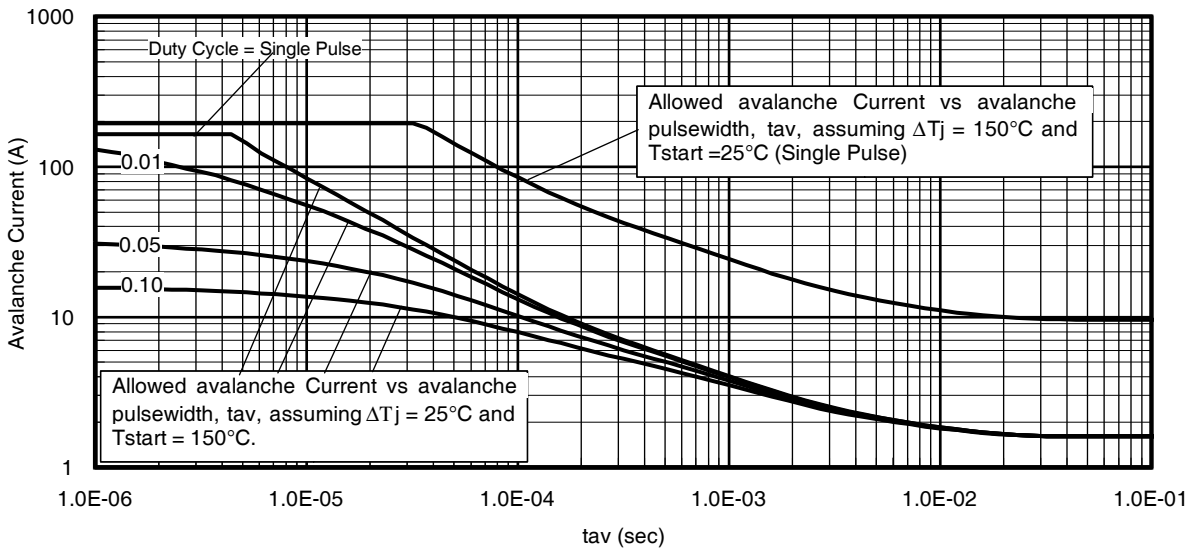

Fig 14. Typical Avalanche Current vs. Pulsewidth
- ④ $I_{SD} \leq 165A, di/dt \leq 430A/\mu s, V_{DD} \leq V_{(BR)DSS}, T_J \leq 175^\circ\text{C}$.
- ⑤ Pulse width $\leq 400\mu s$; duty cycle $\leq 2\%$.
- ⑥ $C_{oss \text{ eff. (TR)}}$ is a fixed capacitance that gives the same charging time as C_{oss} while V_{DS} is rising from 0 to 80% V_{DSS} .
- ⑦ $C_{oss \text{ eff. (ER)}}$ is a fixed capacitance that gives the same energy as C_{oss} while V_{DS} is rising from 0 to 80% V_{DSS} .
- ⑧ When mounted on 1" square PCB (FR-4 or G-10 Material). For recommended footprint and soldering techniques refer to application note #AN-994.
- ⑨ $R_{\theta j}$ is measured at T_J approximately 90°C .
- ⑩ Limited by T_{Jmax} , see Fig. 14, 15, 22a, 22b for typical repetitive avalanche performance.
- ⑪ $R_{\theta JC}$ value shown is at time zero.
Notes on Repetitive Avalanche Curves, Figures 14, 15:
7. ΔT = Allowable rise in junction temperature, not to exceed T_{jmax} (assumed as 25°C in Figure 14, 15).